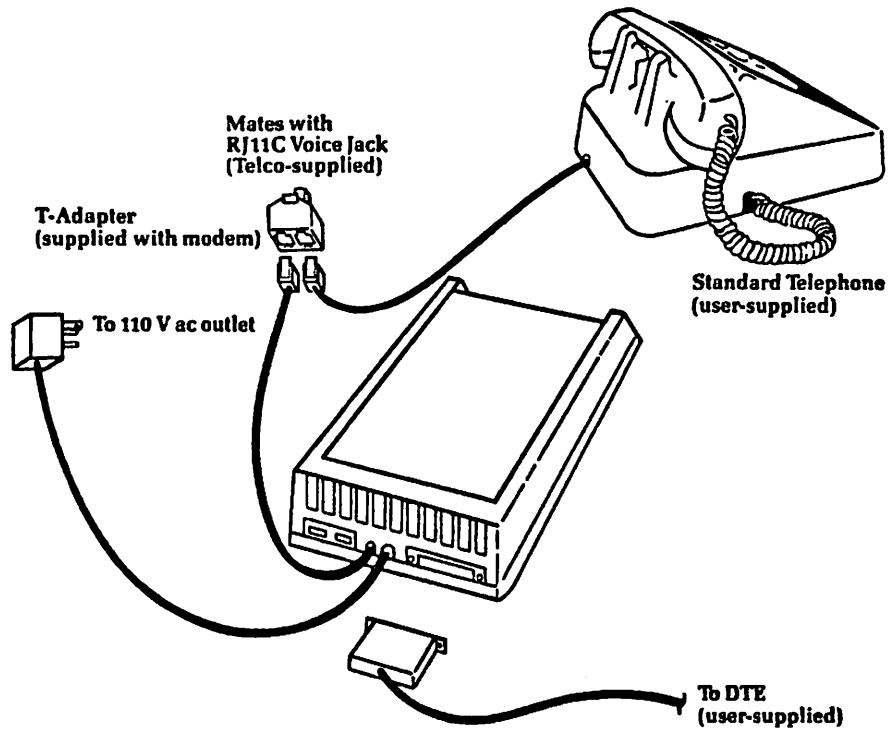

FIGURE 1 - CONNECTION TO DATA JACK
- A. Page 2-3 - For use with a standard telephone, follow the installation procedure on page 2-3 of the Racal-Vadic manual. Connect the modem as shown in the PSN figure 1, instead of figure 2-1 as shown in the Racal-Vadic reprint.